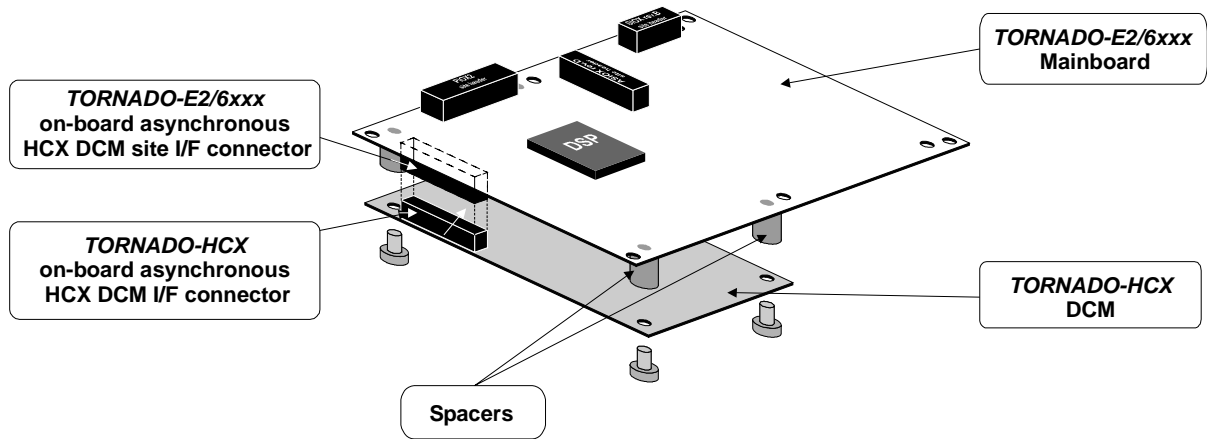

Figure 3-1. Installation of asynchronous-only *HCX DCM* into *HCX DCM* site of *TORNADO-E2/6xxx*.
2. Ensure that there are four spacers installed into the mounting holes of *TORNADO-E2/6xxx* DSP controller for fixing the position of installed *HCX* DCM (Figure 3-1). Spacers are enclosed with *TORNADO-E2/6xxx* board.
- Pick-up the *TORNADO-E2/6xxx* DSP controller board and orient it parallel to *HCX DCM* above the *HCX DCM* site area. Safely plug-in *HCX DCM* into JP7-1/JP7-2 headers of *HCX DCM* site on *TORNADO-E2/6xxx* DSP controller board. Note the difference between installations of asynchronous-only *HCX DCM* and asynchronous/synchronous *HCX DCM* as it is shown at Figure 3-1 and Figure 3-2 correspondingly.